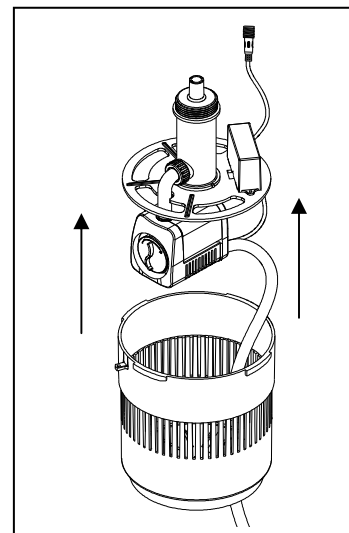

Fig. 10
6. Lift the pump and UV light assembly up from the fountain. NOTE: In order to extract the pump and UV light assembly from the flotation basket, the main power cord must be fed up through the bottom of the flotation basket. Fig. 10